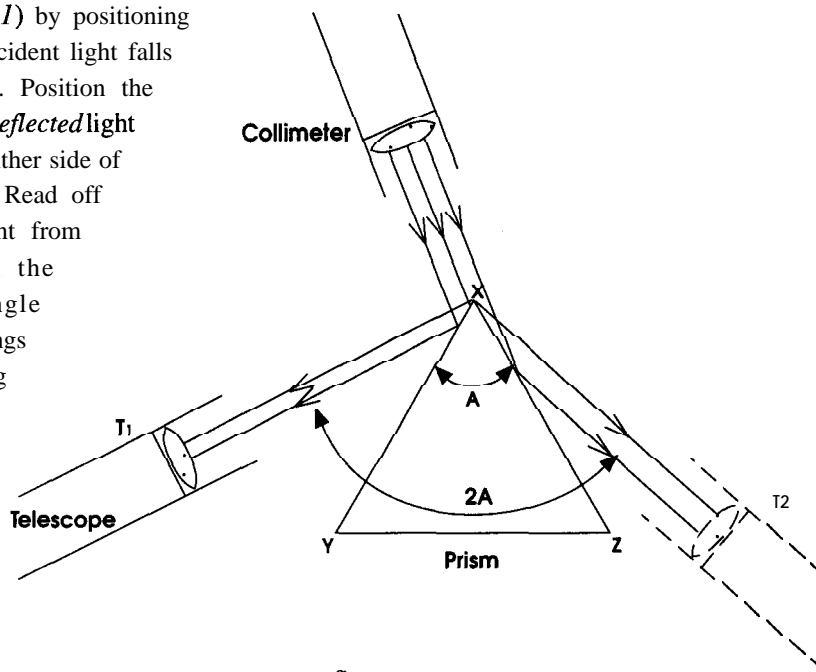

figure 1
3. **Calculate the refractive index of the prism** using the sodium vapour light and the 60° flint glass prism. First determine the refracting angle of the prism (*see figure 1*) by positioning the prism so that the incident light falls on one of the vertices. Position the telescope to receive the reflected light from each of the faces either side of the edge of the prism. Read off the angular displacement from the vernier scale on the turntable and the angle between the two readings is twice the refracting angle (A) of the prism.